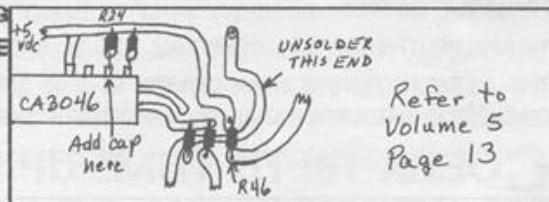

FIGURE 1. GLEN 326-G
3. REFER TO FIGURE 1. UNSOLDER AND REMOVE THE END OF R46 THAT IS ATTACHED TO THE B+ SUPPLY.